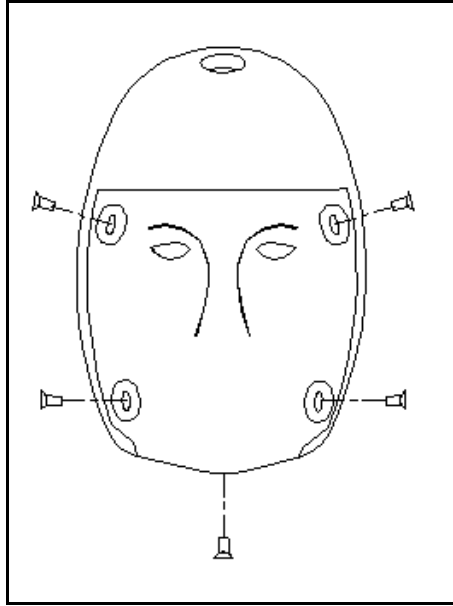

Figure 3.6- Face skin installation
5. With the head skin fully assembled onto the skull, install the face foam assembly (T1FCM060) and face skin (T1FCM050) onto face. Velcro is located on the side of the head skin and the inside edge of the face skin to hold the skin with foam to the head. Using four #10-24 x 1" FHSCS {1/8}, secure the side of the face skin to the head. Using one #6-32 x 1/2" FHSCS {5/64}, secure the bottom of the face skin to the chin guard. Refer to **Figure 3.6** for a drawing of the face skin installation.